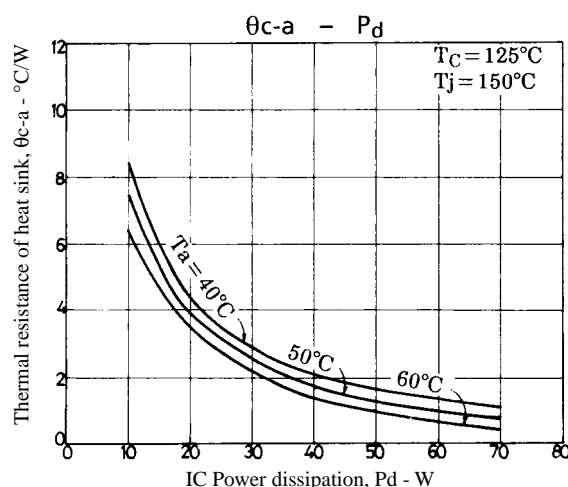

Figure 3. STK4162II $\theta_{c-a} - P_d$
Figure 3 shows the relation between P_d and θ_{c-a} given from (1) and (3) with T_a as a parameter.
The thermal resistance of a heat sink is obtained from Figure 3.